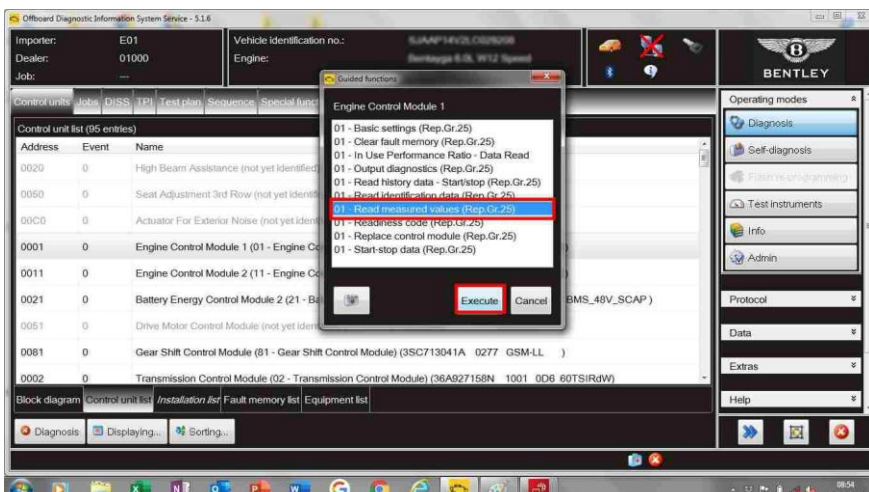

Figure 3
- Select “Read measured values” and then “Execute” – Figure3.